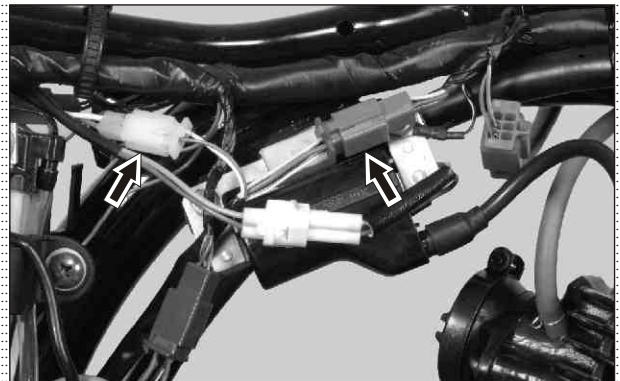

Fig. 3.36
- Disconnect all the wiring sockets from magneto assembly connected to wiring harness. (Fig. 3.36)